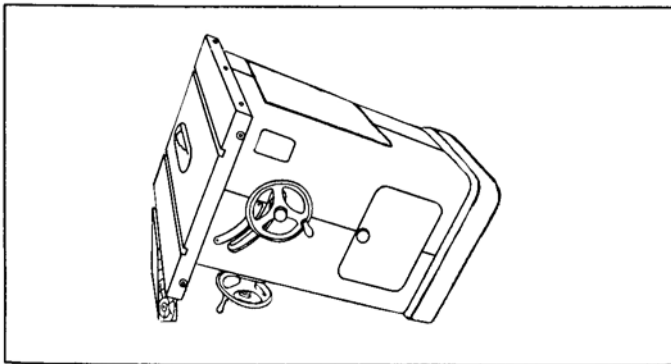

Fig. 2.
3. Tilt the cabinet as shown in Fig. 2. Place a block of wood under the edge of the table, approximately 10" high in order that the tilting hand-wheel clears the floor, as shown in Fig. 2.